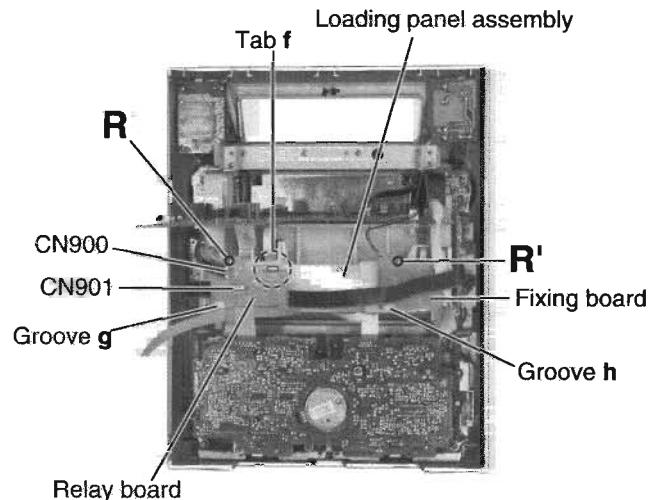

Fig.20
- Remove the relay board / fixing board (Refer to Fig.20).